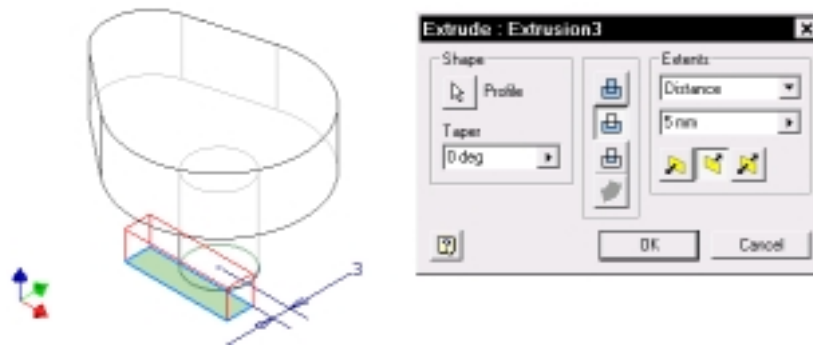

Figure 3-13
7. Extrude the sketch a distance of 5 mm to cut the solid part. (See Figure 3-13.)